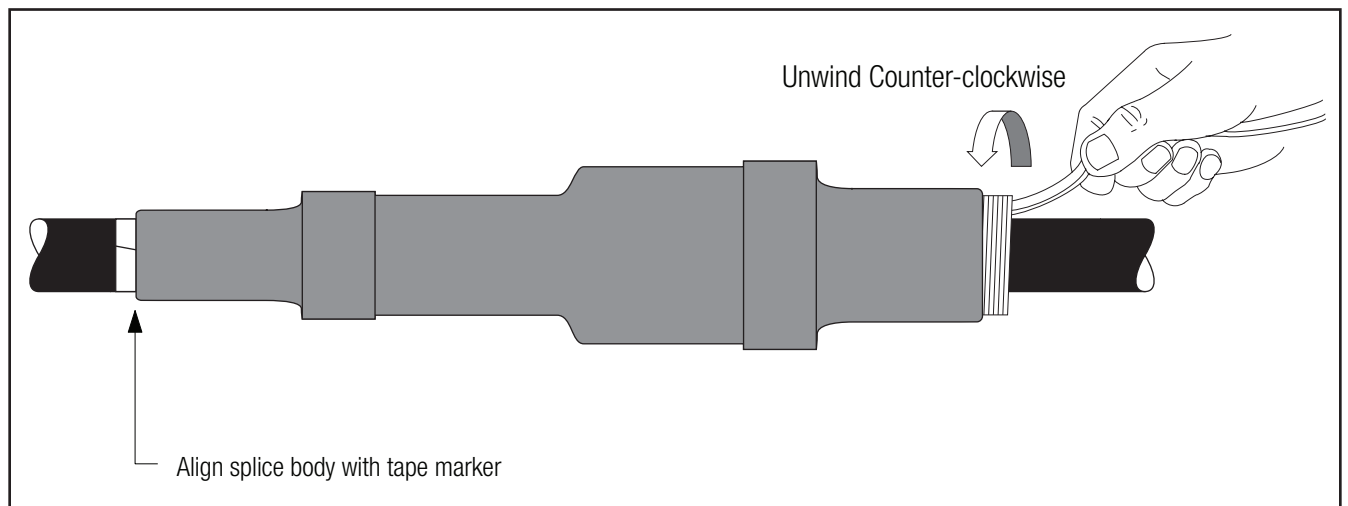

Figure 16
- 4.5 Position the splice body over connector area, aligning end of the splice body (not the core) at the center of the tape marker. Slowly start to remove the splice core by pulling and unwinding the loose core end counterclockwise, allowing only  $\frac{1}{4}$ " (6 mm) of the splice to shrink onto the tape marker. Carefully slide the splice body off the tape marker by pulling and twisting until the entire tape marker is exposed. Continue removing the core to complete the splice body installation (Figure 16).